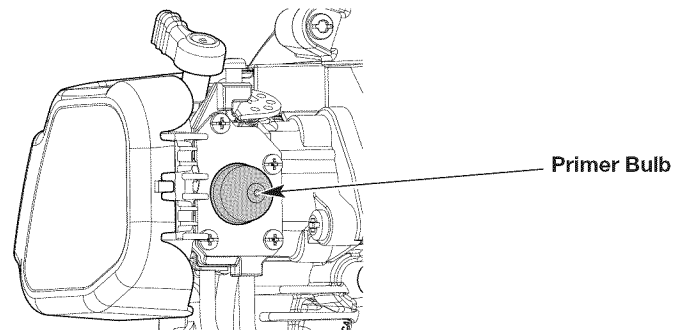

Fig. 10
3. Slowly press and release the primer bulb **10 times** (Fig. 10). If fuel cannot be seen in the primer bulb, press and release the primer bulb until fuel is visible.